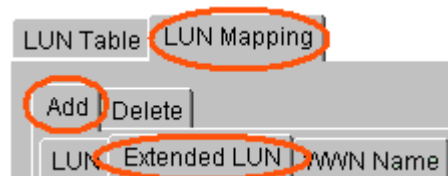

Figure 9-21: Extended LUN Mapping Tabs
Step 2. Select the **LUN Mapping** tab shown at the top of the *LUN Map Table*. A new screen will appear in the content window. From this screen first select the **Add** sub-tab, and then click on the Extended LUN sub-tab. (See *Figure 9-21*).